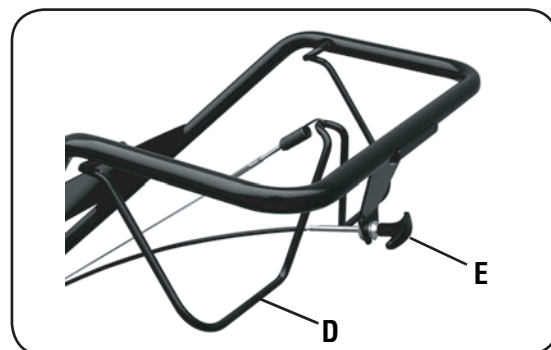

Figure 3-4: All models have a Forward Clutch Bail (E). Only Model 634A have a Reverse Clutch Control (F).
The Forward Clutch Bail (D, Figure 3-4) controls the engagement of forward drive to the wheels and tines.
2. Lift and hold the clutch bail (D, Figure 3-4) against the handlebar to start the wheels and tines rotating in a forward direction.
The Reverse Clutch Control (E, Figure 3-4) controls the engagement of reverse drive to the wheels and tines. **The reversing feature is used for maneuvering the tiller only — never engage the tines in the ground while operating in reverse.**
3. Lift the handlebar until the tines clear the ground, look behind you to avoid any obstacles, and then pull the control knob (E, Figure 3-4) out. The wheels and tines will rotate in a reverse direction.